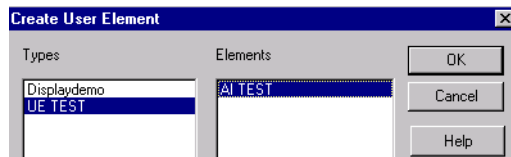

Figure 153. Create User Element
3. Select UE TEST as user type, and AI TEST as the user element, Figure 153.